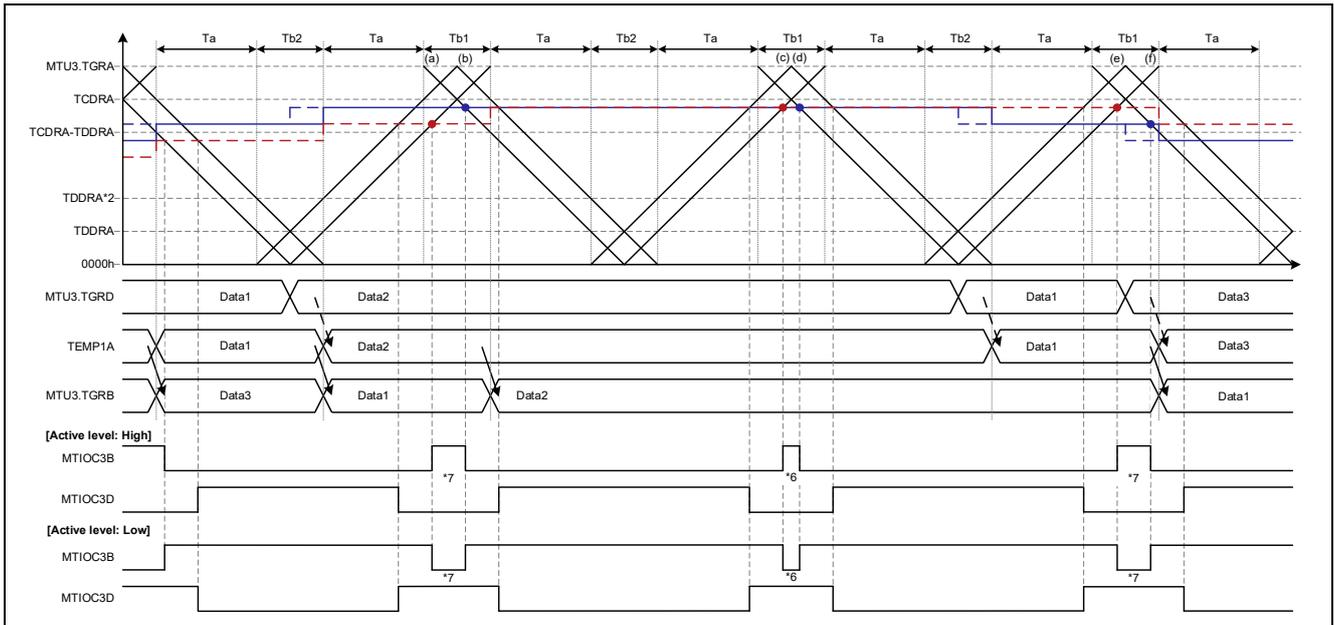

**Figure 1.47 Complementary PWM Mode 2 Operation Example
- [Operation example 2] Figure 1.47, Complementary PWM Mode 2, Output Start: Trough, Ta Interval Overwrite, cautions 6 and 7
Figure 1.47 shows an operation example of buffer overwrite in the Ta interval in complementary PWM mode 2. Except for the difference in the buffer overwrite timing, the operation is the same as that shown in Figure 1.46.